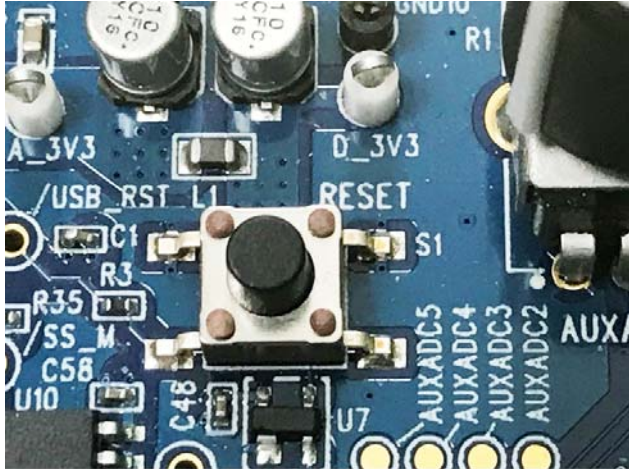

Figure 74. Manual **RESET** Push-Button
2. Press and release the RESET push-button (S1) (see Figure 74).
To manually reset the ADAU1452 and AD1938, press and release the **RESET** push-button, S1 (see Figure 74). A reset generator circuit toggles the reset pins on the ADAU1452 and AD1938 to perform a full hardware reset of both devices.